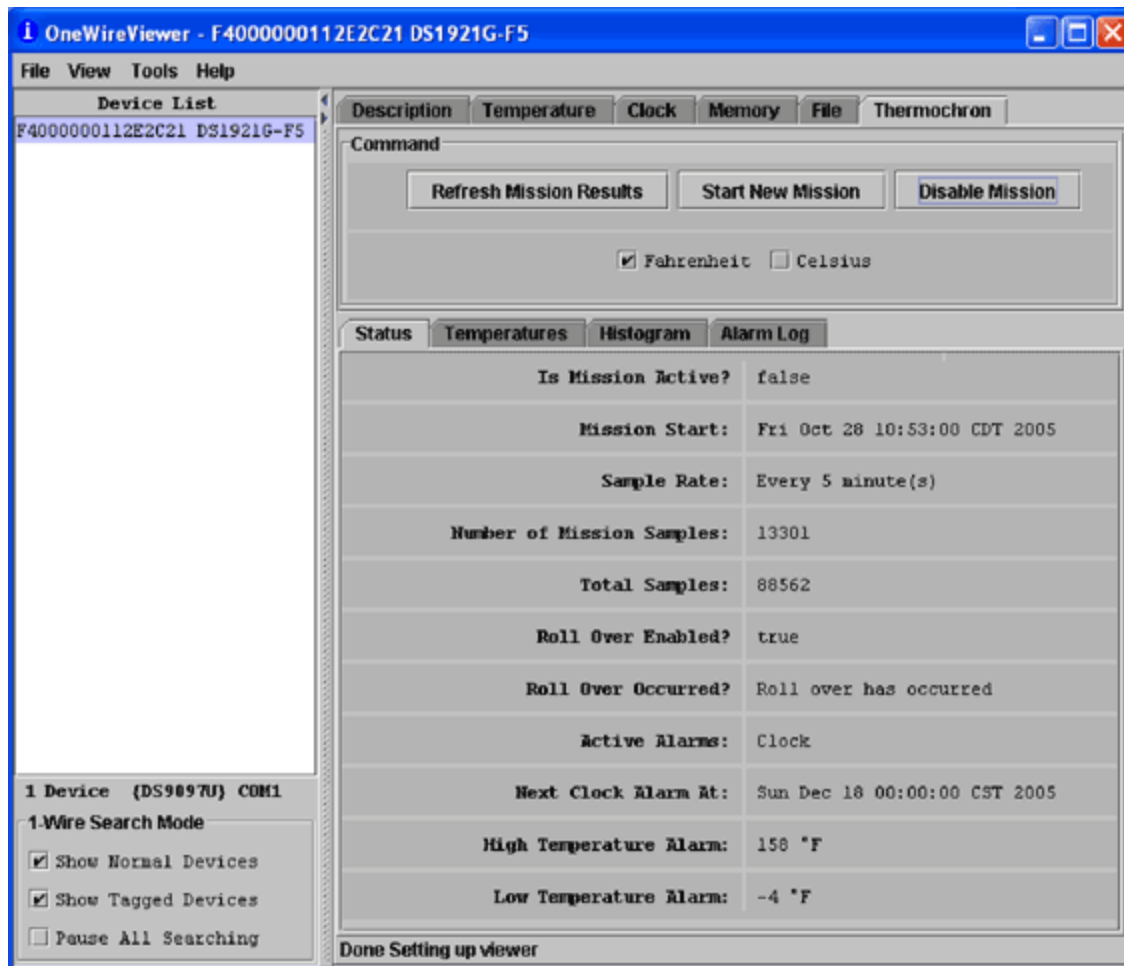
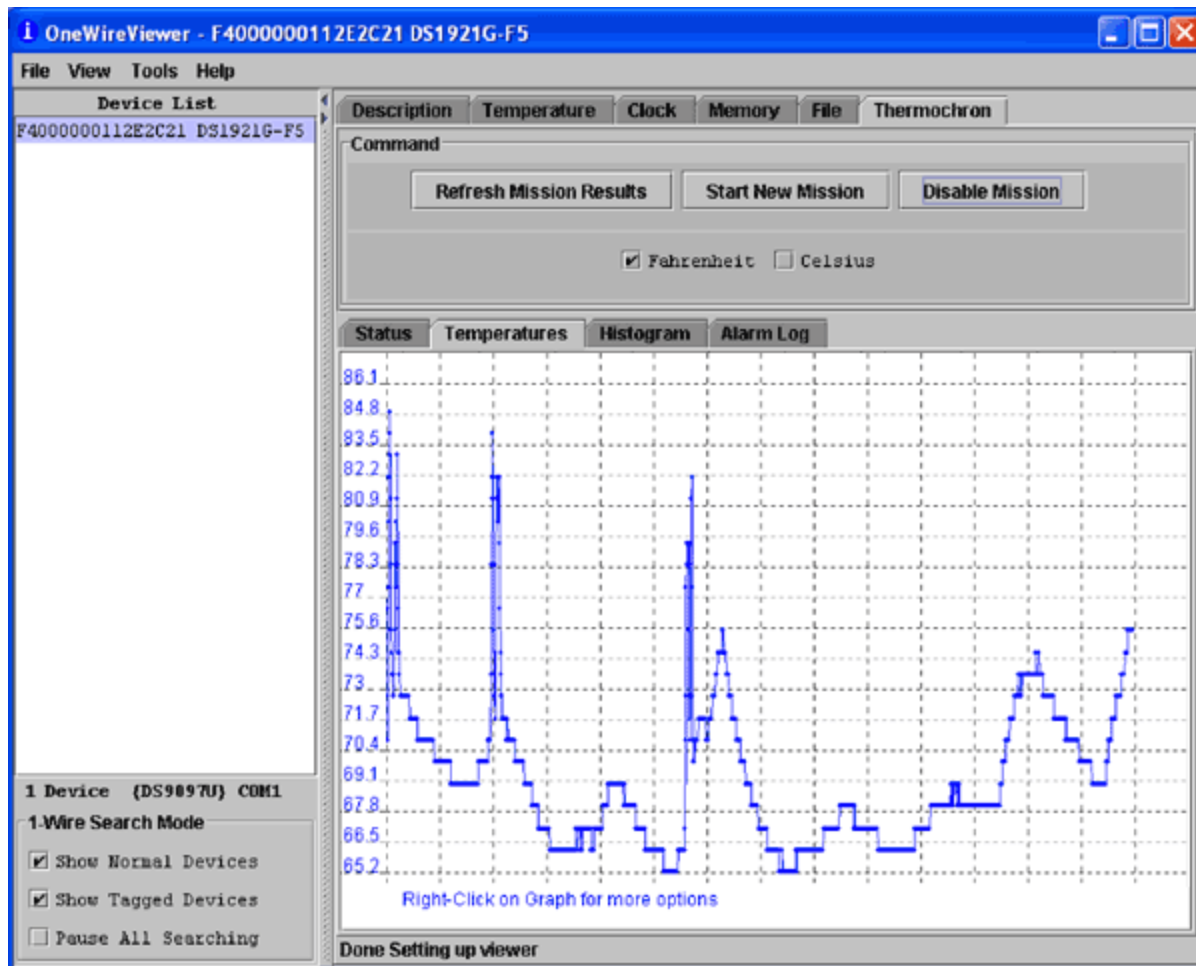

Figure 1. Thermochron viewer screen.
Figure 2. ThermoChron temperature vs. time graph.
3. Select the correct ROM ID number from the device list (**Figure 1**).
4. For the DS1921G, open the Thermochron subviewer by clicking on the Thermochron tab. For the other data loggers, this screen does not have a Thermochron tab. Instead, open the Mission subviewer by clicking on the Mission tab (not shown in Figure 1).
7. On the screen in Figure 1, notice that there are two rows of tabs, an upper row and a lower row. Select the lower "Temperatures" tab. This displays graphically the Thermochron log of temperature vs. time (Figure 2).